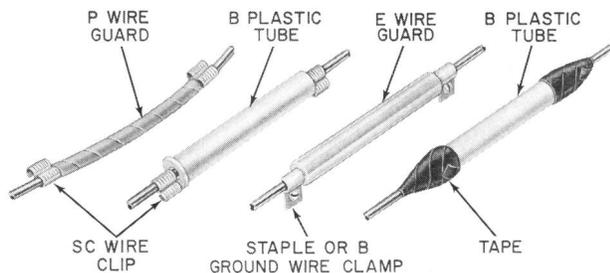

Fig. 1—Securing Plastic Tubes or E Wire Guard
4.01 A protective covering is required (Fig. 1) where it is not practicable to obtain the minimum separation at crossings shown in Tables A and B or where wire and cable runs are subject to mechanical damage, abrasion, or excessive heat. Where Tables A and B list **No Alternative**, the minimum separation must be maintained. P wire